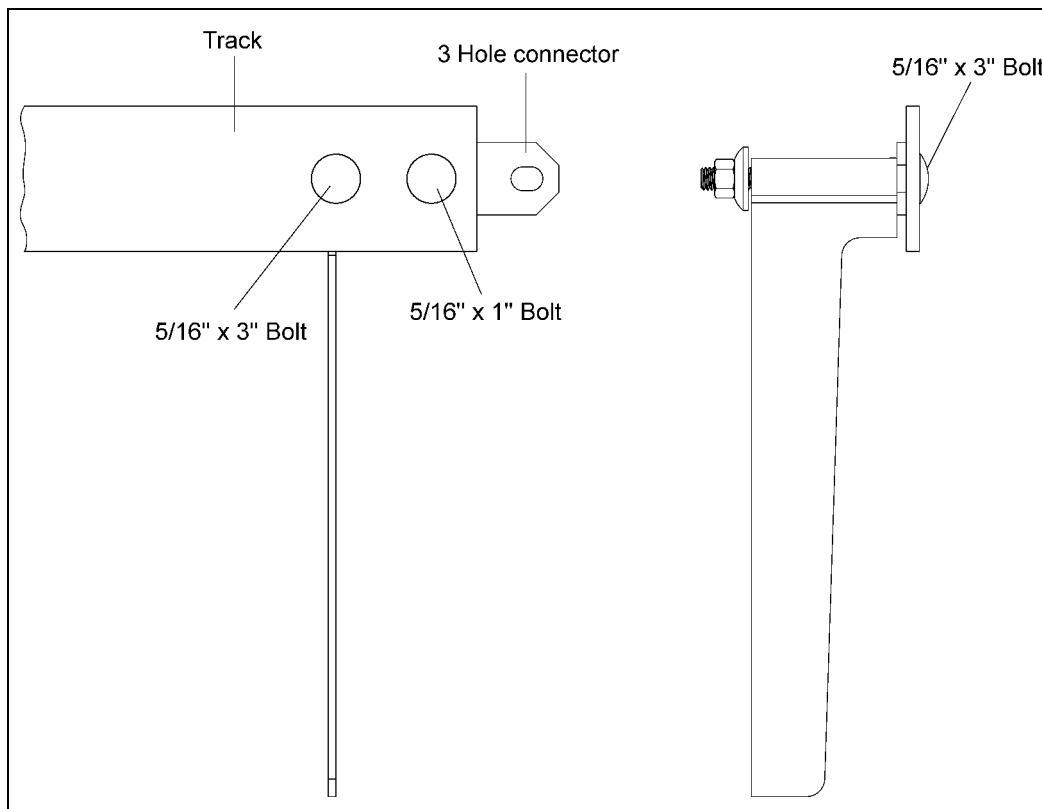

Figure 4D
- b. Drill or punch 5/16" holes for the track bolts progressively around the bin wall, located 10-1/4" from the eave. Start with the double hole end of the track section, then drill or punch a hole through the bin wall at the second hole location. Attach the track piece to the wall using a 5/16" x 3" bolt. The bolt should go through the track, 3 hole connector, track bracket and bin wall. Fasten with a cup washer and a hex nut. Tighten with socket head on impact wrench. (See Figure 4D.)